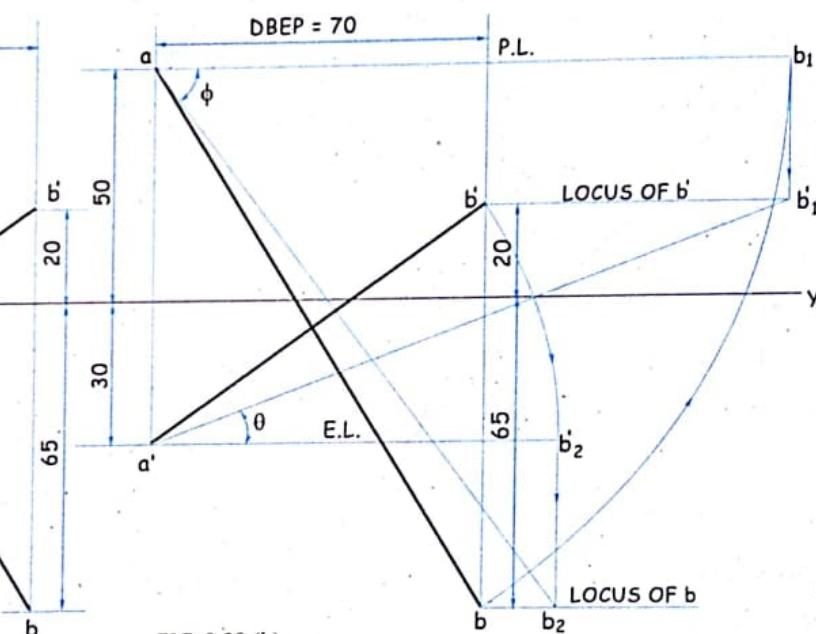

FIG. 8.29 (b)
**Stage I : Refer figure 8.29 (a).**